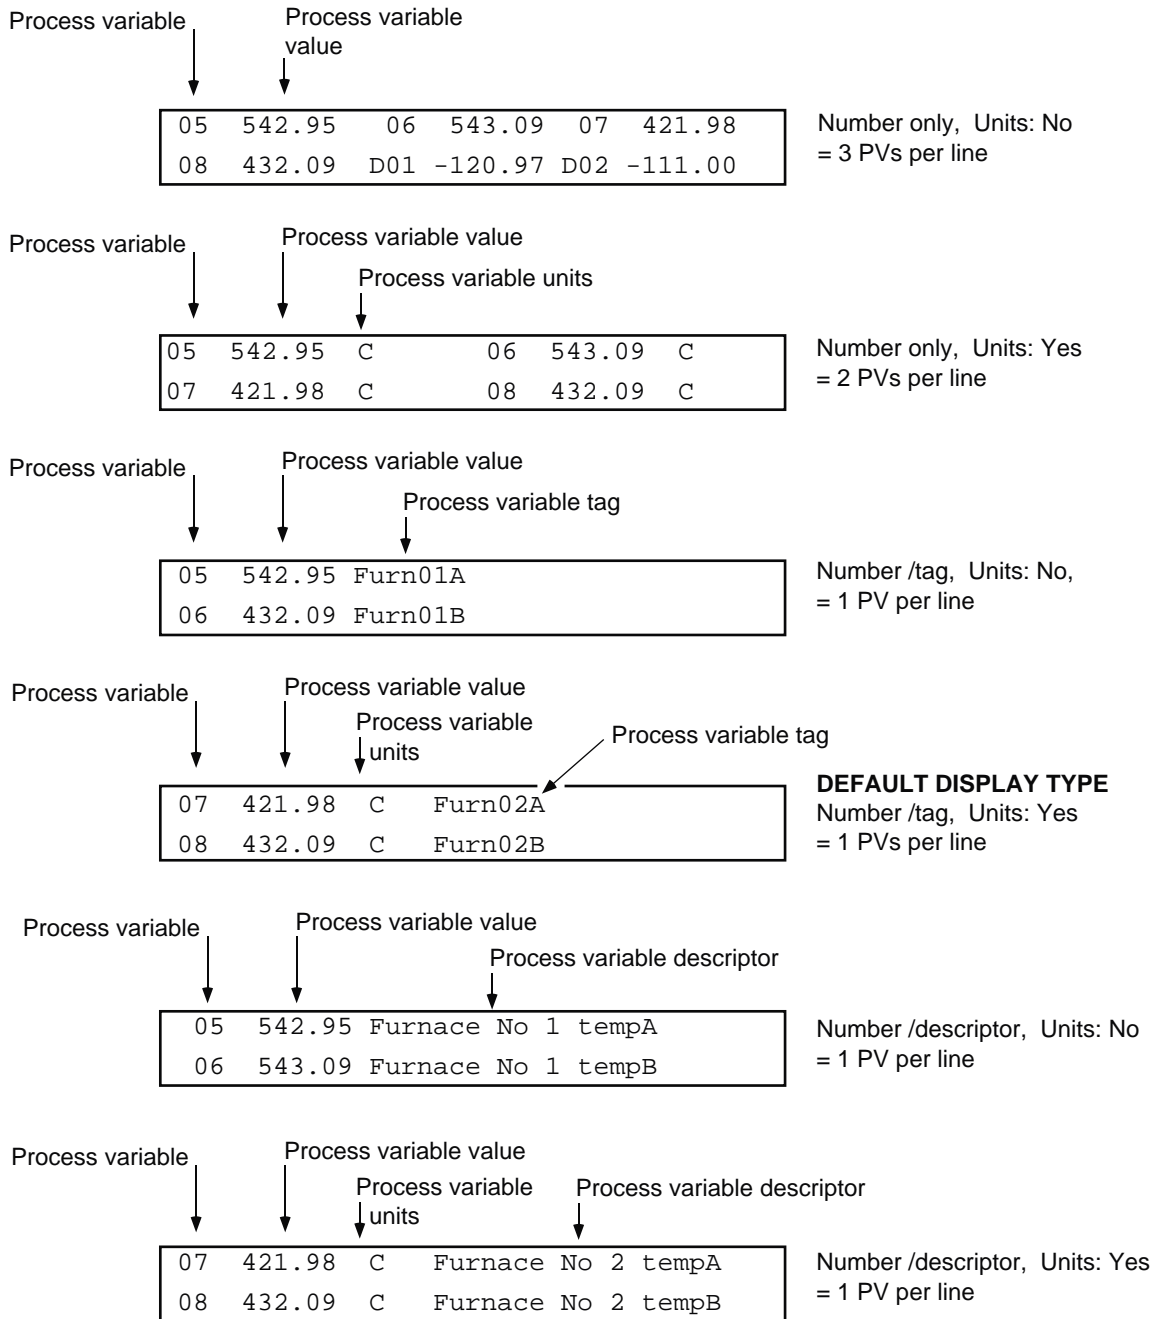

Figure 3.2.1a Numeric indication modes
- MODE** Operation of this key calls the 'Display mode / Group Select' page to the display. See figures 3.2.1a/b for an illustration of the different display modes available.
Numeric	Up to three PVs can be displayed as digital values on each display line, depending on the format selected for the group. This group format (section 4.5) defines whether units and / or tags and / or descriptors appear alongside the value, and thus how many values can appear on each line (figure 3.2.1a).